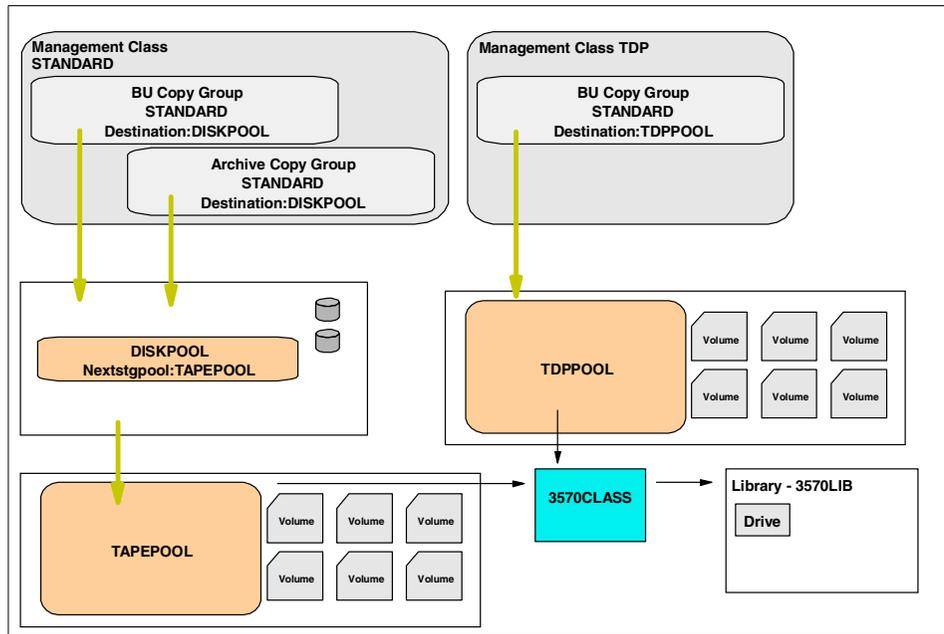

Figure 101. Original storage setup on Diomed
3. The next step would be to move the data from the disk storage pool used by the TDP client to the tape storage pool. This due to the fact that after the migration, the Storage Agent will require that you only use a tape storage pool. In our example, however, as shown in Figure 101, this is not required, since no disk storage pool is used for the TDP client (TDP management class).